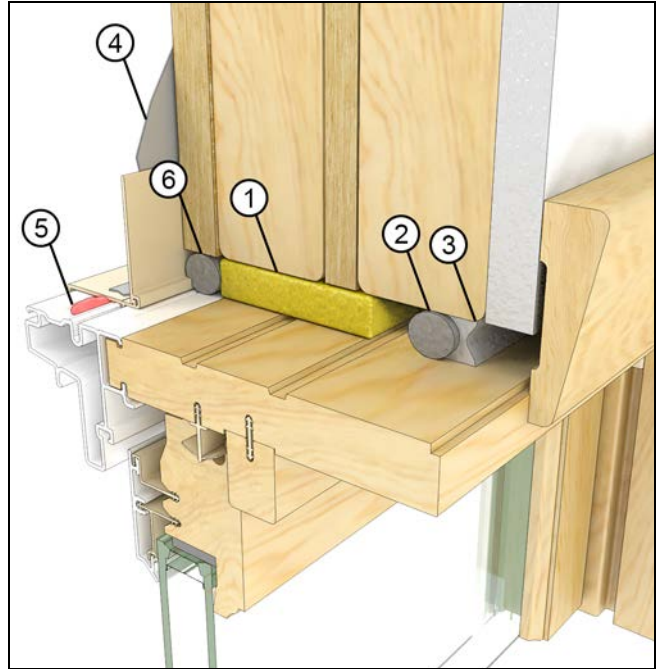

Figure 59
2. Low Expansion Foam. Install a backer rod at the exterior plane of the RO. Apply a low expansion/low compression closed cell foam in the cavity. Install a backer rod and sealant at the interior plane of the RO to create a continuous air seal. See Figure 59.